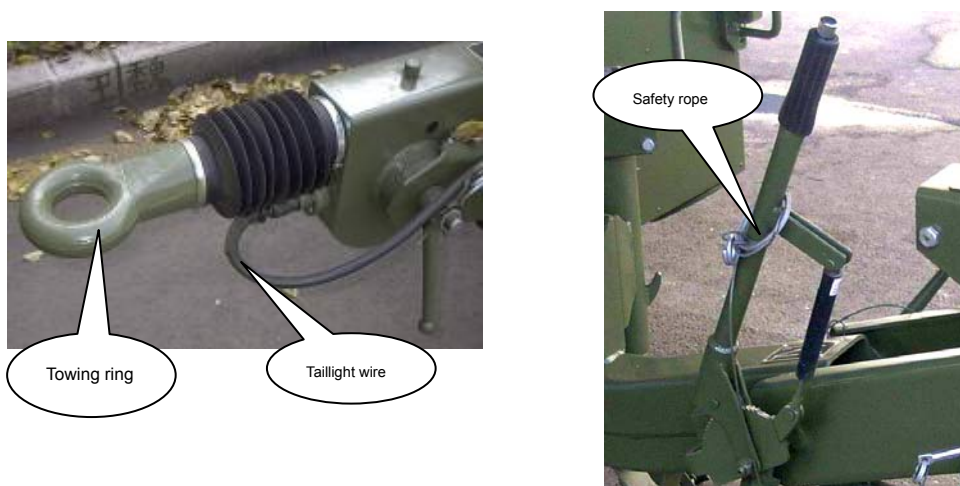

Fig. 3.7-2
3) Connect the taillight (see Fig. 3.7-2) to the main vehicle and check that all the indications of the taillight are in conformity with the main vehicle.
4) Connect the safety rope (see Fig. 3.7-2) to the main vehicle.